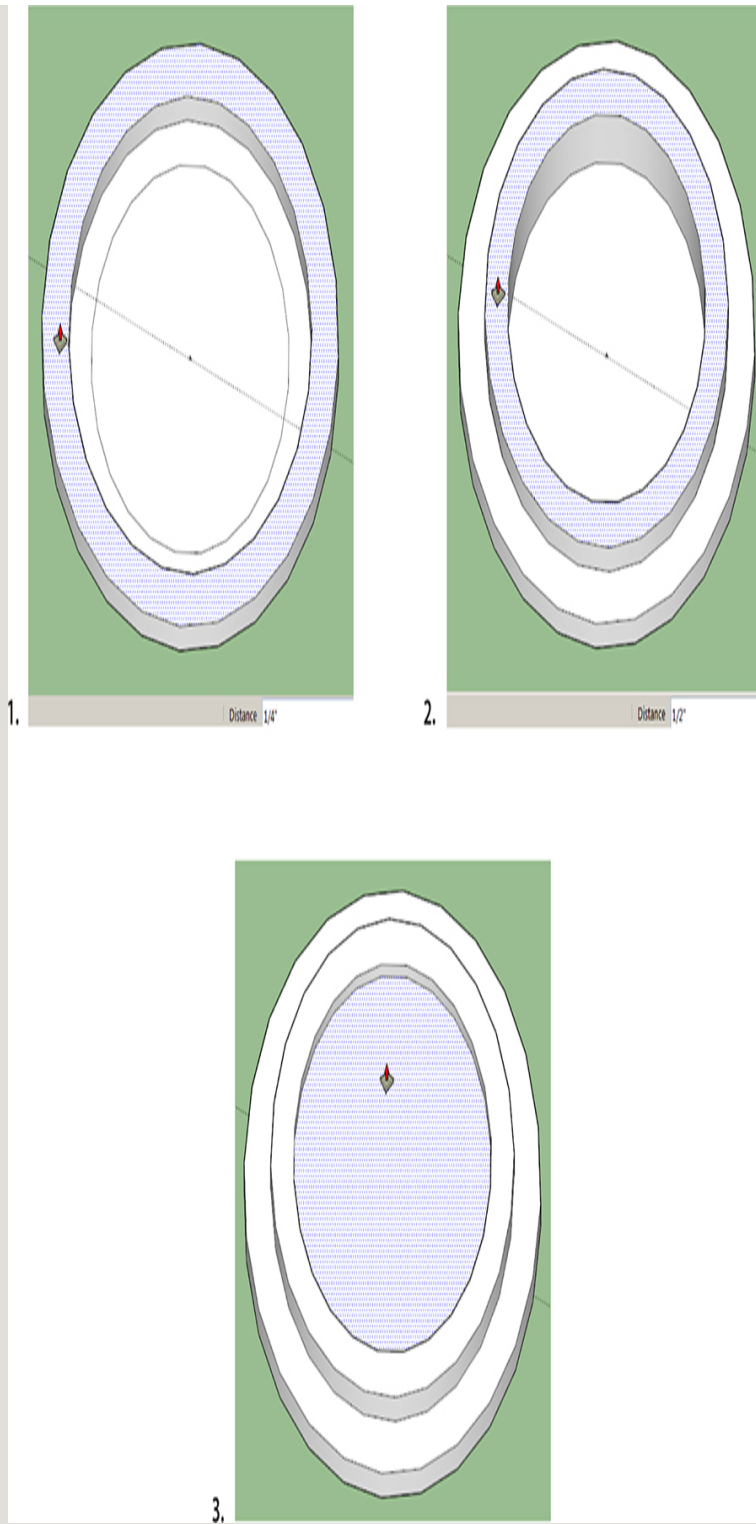

Figure 3-111 Push/pull the rings up.
8. Push/pull the rings up (Figure 3-111). Pull the first circle up $\frac{1}{4}$ " and the second circle up $\frac{1}{2}$ ". Pull the third circle up so that it is just a bit below the second circle. Make sure that you pull them all up instead of pushing some down. This makes a difference when preparing it for 3D printing. In general, some workflows make a model *solid*, a necessity for 3D printing that we'll discuss in Chapter 5. Other workflows create models that aren't solid and difficult to make so, even if the appearance on the computer screen is the same.